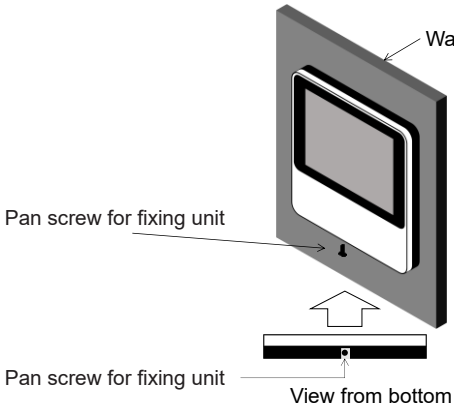

Fig. 3.4.7
- Once you have set the unit, secure it and the installation bracket using the fixing unit's pan head screw. Tighten the screw from the bottom up (Fig. 3.4.7).